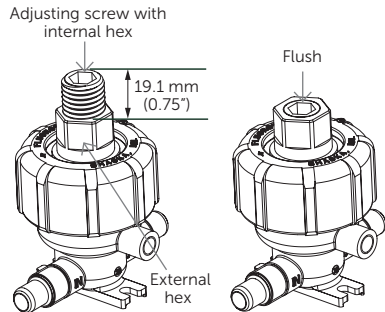

Figure 3.
12. Place the diaphragm preload tool (T2) onto the retainer nut (P11) and screw on the outer cap (P9) to hold it in place. (See Figure 3.)
- Secure the diaphragm preload tool (T2) in place with the outer cap (P9). (See Figure 3.)
- With an adjustable wrench (S6), hold the diaphragm preload tool (T2) external hex from rotating and turn the internal hex from top of the diaphragm preload tool (T2) with the  $\frac{1}{2}$ " allen wrench (S7) clockwise until it is flush with the top surface of the tool. (See Figure 3.)